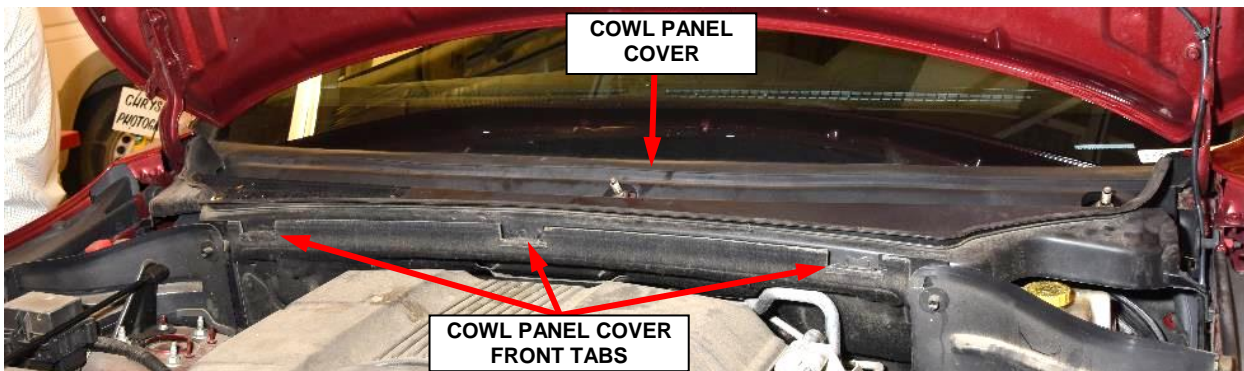

Figure 33 – Cowl Panel Cover
5. Position the cowl panel cover back onto the vehicle and engage the front tabs (Figure 33).